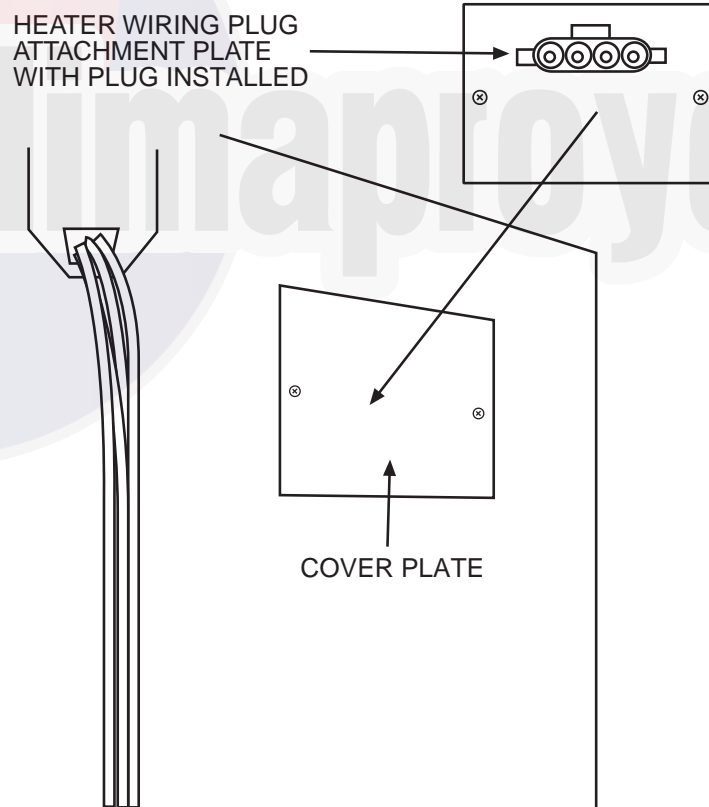

Fig. 4 – Inside Blower Compartment
- Remove heater wiring cover plate from interior partition between blower and control box (See Fig. 4) and install heater wiring plug attachment plate provided with heater.
- Heater control panel will have black and yellow power wires ending in panel mounted plugs; reach through large rectangular opening in control panel and snap these plugs into mating openings in heater wiring plug attachment plate installed in step 9 above (See Fig. 4).